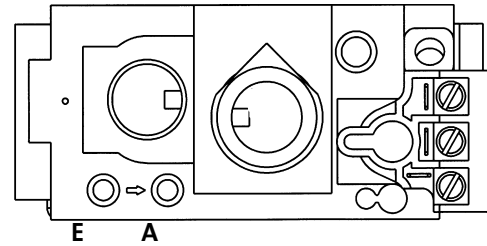

Figure 29. Pressure test points.
**Pressure Test:** Attach a manometer to the appropriate test point on the valve. See fig. 29. The gauge connections are located on the front of the valve under the On/Off/Pilot- knob. Gauge connections are identified by: